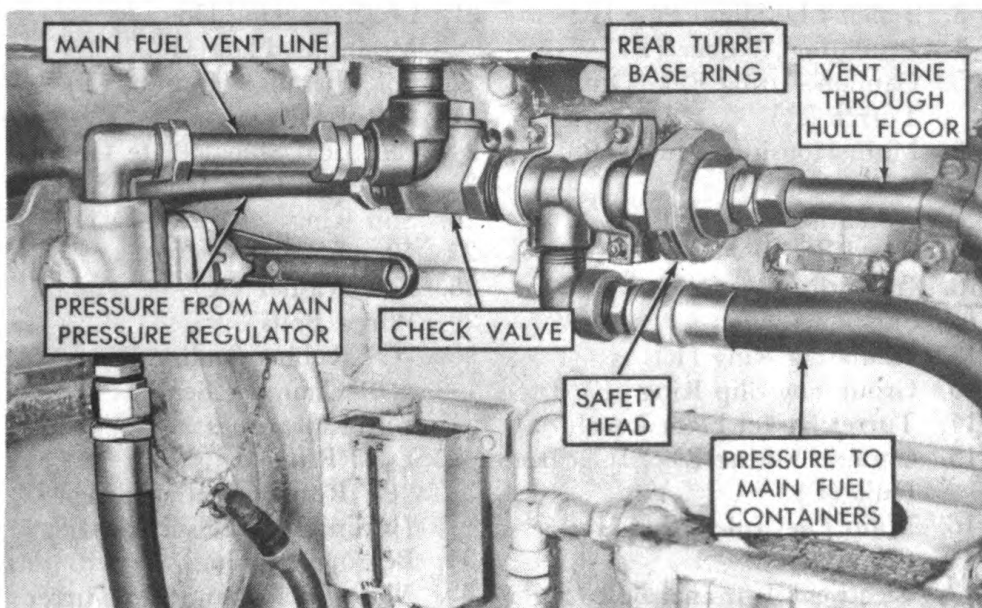

Figure 38—Main fuel system safety head and connections.
d. Safety head disk (fig. 38). The fuel system is equipped with safety head disk. This is located on one side of a tee in the pressure discharge line from the main pressure regulator leading to the right hull main fuel container. It is bracketed to the rear bulkhead, over the engine oil cooler. The discharge side is piped to the outside of the vehicle through a hole in the hull floor. The safety head disk is a lead-tin coated copper diaphragm which bursts at 600 pounds per square inch pressure, protecting the main fuel containers against excessive pressure.
- (1) Remove gunner's seat from turret.
- (2) Lift trap door in basket floor.
- (3) Rotate turret until opening in floor is over flanged connection. (Forward flanges may be reached from driver's and assistant driver's seats.)
- (4) Unbolt flange on flexible hose connections.
- (5) Remove flexible connection.
- (6) Reverse above procedure to install new connector. Aline flange holes so that flexible connector is not twisted or bent. Install new gaskets in flanged joints.
d. Safety head disk. To replace safety head disk (fig. 38):
- (1) Uncouple the pressure inlet line leading to the swing check valve, the discharge line connected to the safety head, and the pressure inlet line to the hull main fuel containers.